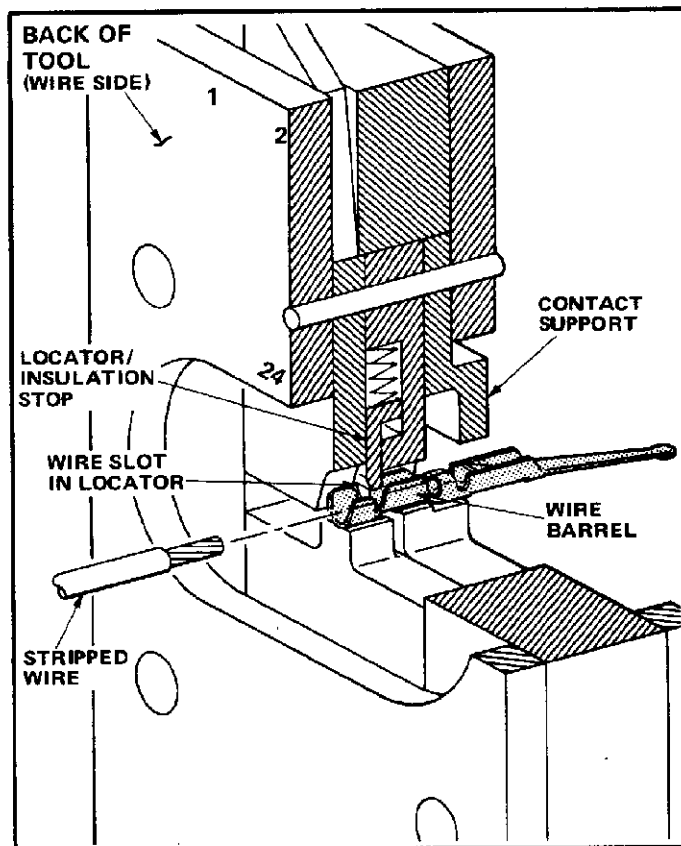

FIGURE I-4
5. Insert a properly stripped wire through the wire slot in the locator and into the wire barrel of the contact until the insulation butts against the locator/insulation stop. See Figure I-4.